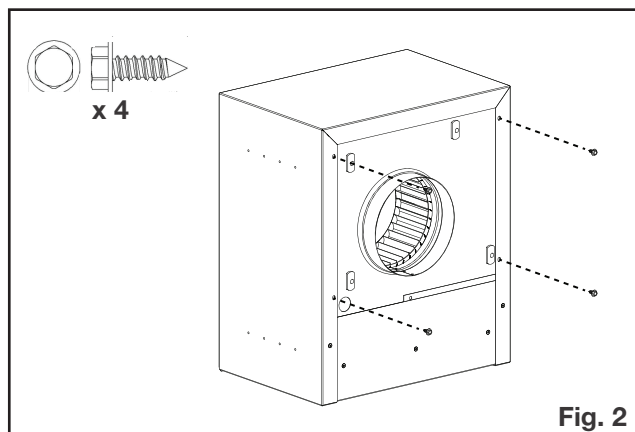

Fig. 2
2. Secure the blower housing assembly to the exterior housing assembly using 4 screws (supplied) (**Fig. 2**).
2. Determine the desired amount of protrusion from the finished exterior wall, and then fasten the wall flashing using 4 screws (supplied) (**Fig. 2**). See "mounting options" section for details.